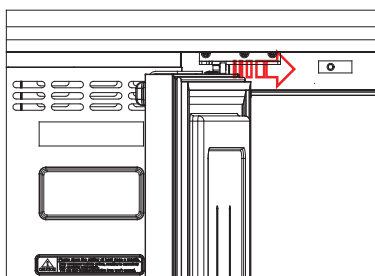

Fig 9-21
3. While applying pressure on the door switch, push it towards the center of the unit or left as indicated. (Fig 9-21)